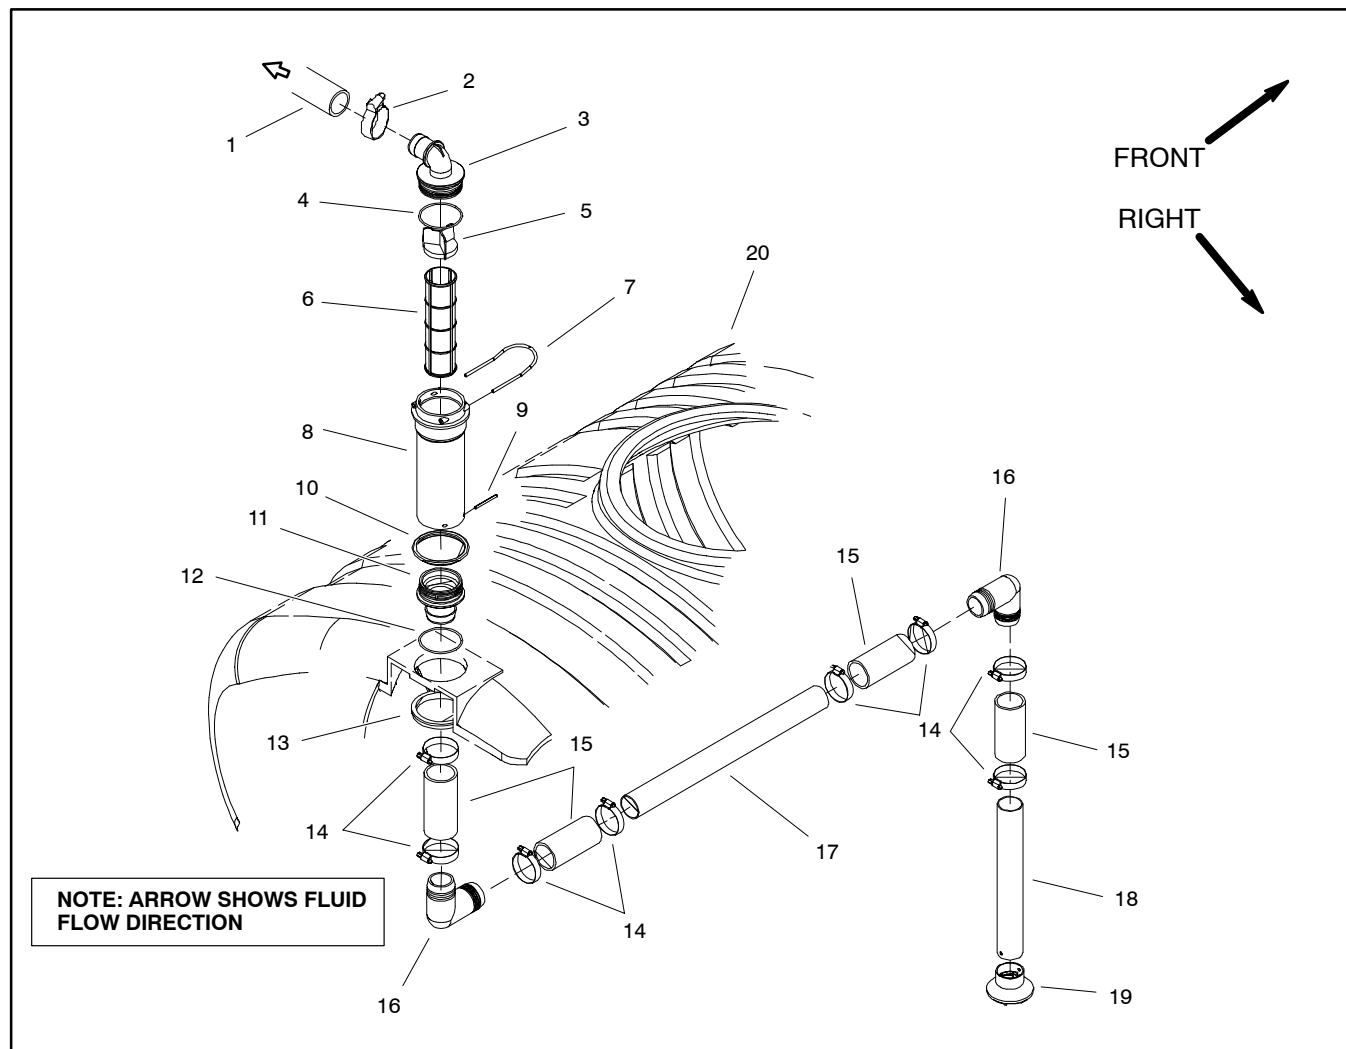

Figure 31
Removal (Fig. 31)
Assembly (Fig. 31)
1. Assemble and install suction tube assembly using Figure 31 as a guide. Replace all removed o-rings and gaskets.